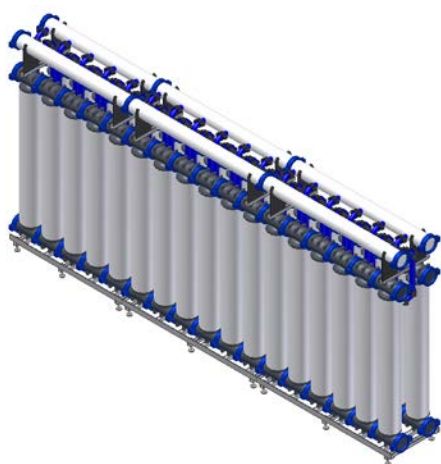
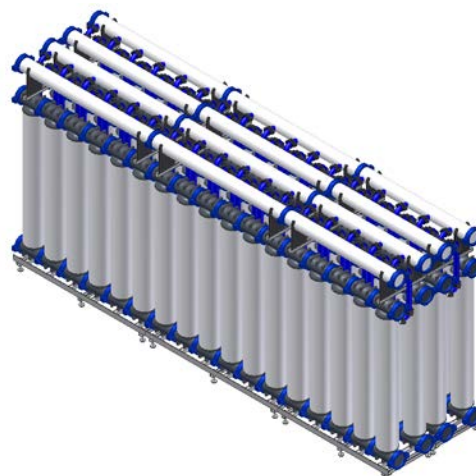

Figure 2-11: 34 dizzer® XL modules in a 2-row T-Rack® 3.0 configuration
Figure 2-12: 68 dizzer® XL modules in a 4-row T-Rack® 3.0 configuration
The T-Rack[®] 3.0 can be assembled as a single system containing up to 68 (136) dizzer[®] UF modules (exact number varies depending on module type and T-Rack[®] system/configuration; see section on "Assembly and Maintenance" for more details) with a capacity of approx. 3,300 GPM (750m³/h) (depending on water quality). The configuration of the system is highly flexible and can be closely tailored to the on-site requirements in each case. For example, it is possible to construct a T-Rack[®] with 34 modules comprising three sub-units – containing 2x12 and 1x10 modules – which are connected in-series or sequentially (two-row arrangement, see Figure 2-11). Alternatively, the T-Rack[®] units can be arranged in a configuration where they are adjacent to each other (four-row arrangement, see Figure 2-12). The four-row design offers a high degree of flexibility by enabling the operation of up to four independent ultrafiltration lines (assuming the piping configuration is suitable).